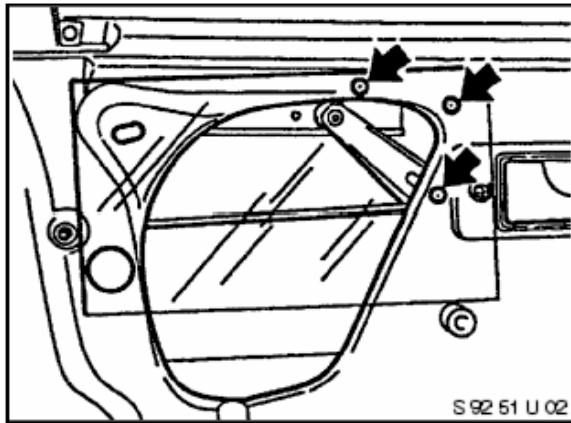

Figure 1
- Place enclosed template against the inner metal door panel (see figure 1) and mark positions of holes (arrowed).